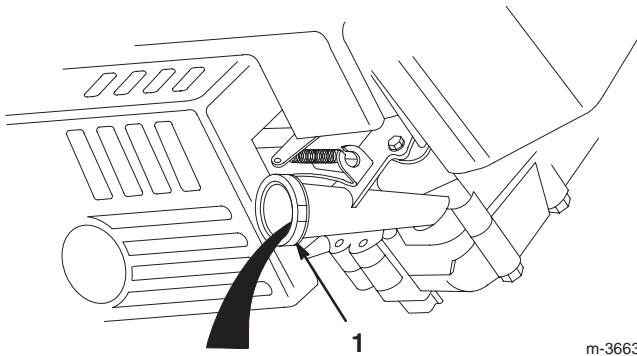

Figure 20
5. Tip the lawn mower onto its **left** side, allowing the oil to drain into the drain pan (Fig. 20).